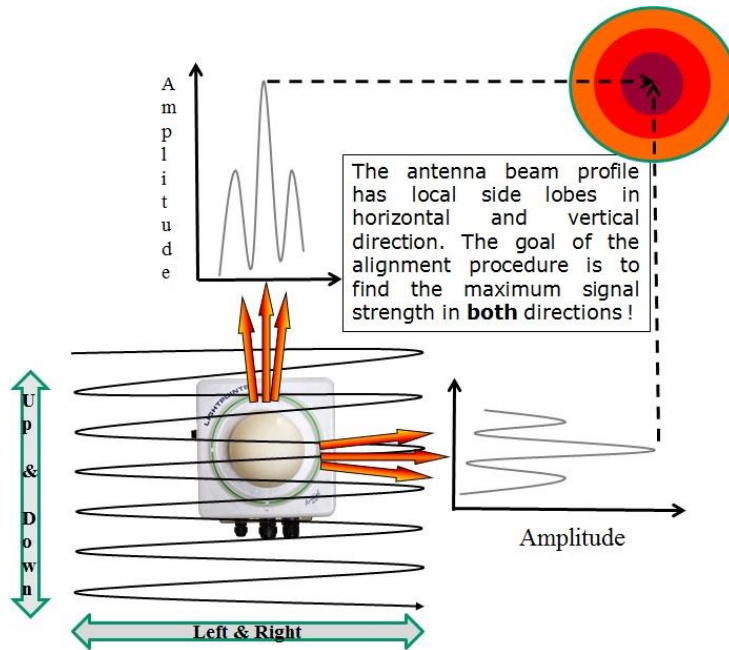
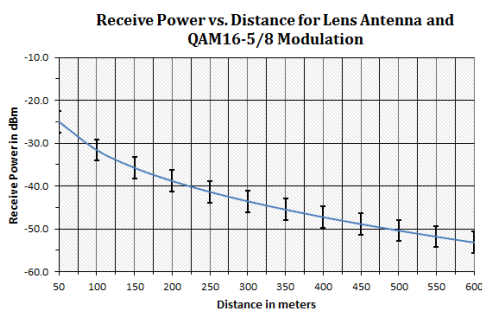
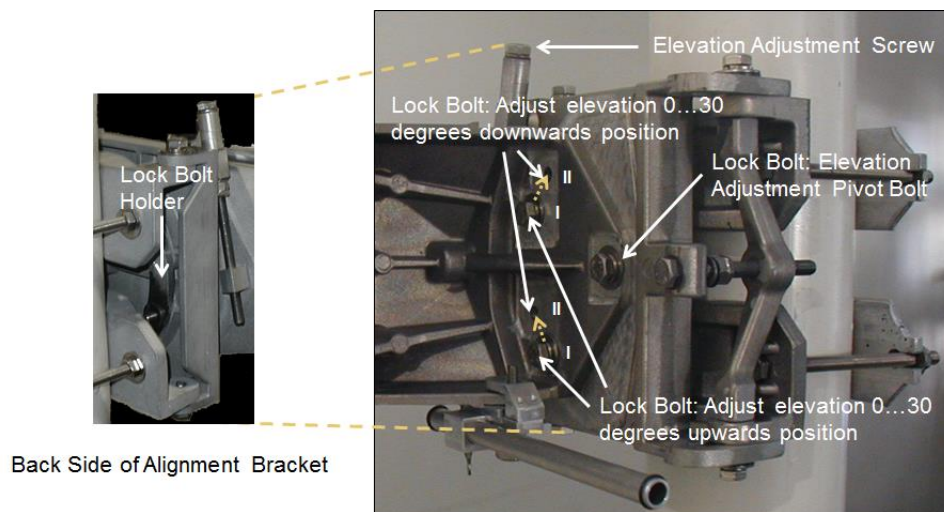

Figure 5-7: Simple illustration of the alignment process
Figure 5-8: Typical AireLink 60-SX RSSI vs. Distance Charts for standard distance setting.
Figure 5-14: Elevation Adjustment
8. The alignment tool is meant to provide a rough alignment towards to opposite antenna location. It is however not an exact tool for finding the best alignment of the antennas. More precise alignment is done via the digital voltmeter or the *LightPointe BLE Tool* that measures the receive signal strength/RSSI voltage. Within several dB of accuracy the RSSI voltage reading in Volt corresponds to the RF RSSI signal reading in dBm. In other words, and with the correct polarity chosen, a system that is not aligned at all will show a negative voltage reading close to -0.80 Volt and this translates into -80 dBm. This signal level is far too low to establish a data connection. During the alignment process the voltage reading will increase, meaning “less negative” voltages or higher RF RSSI reading in dBm will be recorded. The goal is to align the system at its best possible and highest RSSI reading (e.g. increase the voltage reading from -0.8 V to -0.5 V). LightPointe provides a distance vs. voltage reading chart for the AireLink 60 system using either the integrated or the external antenna options (see Figure 5-8). When using the *Lightpointe BLE Tool*, the RSSI reading is given in dBm directly.
10. Ensure that the antennas are not aligned on a side-lobe. In particular when the system is installed over short distances the side-lobes can be easily seen. Rotate the antenna a few degrees to each side of the perceived alignment center and both side-lobes can be detected as "local RSSI voltage minima". The main lobe which is located right in the middle between the two side lobes will have a much higher voltage reading. Fig. 5-7 shows a simple illustration of the alignment process and the location of the antenna side lobes in relation to the main lobe.
11. When aligning the system it is important to take a look at the Receive Signal Strength chart shown in Fig. 5-8. The RSSI chart shows the RSSI signal voltage as a function of the deployment distance in clear weather conditions. Therefore, and when the system is installed under non-clear weather conditions, the values can be lower during the actual installation process. 60 GHz systems are also impacted by oxygen absorption (see Fig. 2-2) and these values can also vary several dB between sea level installations and installations at higher altitudes. The RSSI values are different for the low band and the high band radio and the values vary slightly and within a few percent from one radio system to another due to manufacturing tolerances. However, the chart provides a very good indication of expected RSSI values as a function of deployment distance. The overall goal of the alignment process is to align the system as close as possible to the RSSI value provided in the RSSI chart.
12. After maximizing the RSSI signal levels on both sides of the link, do not forget tightening the Elevation and Azimuth Locking Bolts (see Fig. 5-7 and Fig. 5-8).
To adjust the elevation settings of the antenna see Fig. 5-7 and perform the following steps:
3. In case the elevation must be adjusted upwards, ensure that the two Elevation Locking Bolts marked **I/II** in Fig. 5-14 are both in position **I**. If not, keep the Pivot Bolt in place and unscrew these two locking bolts. Support the antenna when removing the last/second bolt to avoid the antenna sliding down. On the back of the alignment bracket is the lock bolt holder (see Fig. 5-7) and it needs to be put in place again before re-inserting the bolts in position **I**. Do not completely tighten the bolts to allow the antenna to move when turning the Elevation Adjustment Screw.
9. After maximizing the RSSI signal levels on both sides of the link, do not forget tightening the Elevation and Azimuth Locking Bolts (see Fig. 5-14 and Fig. 5-15).